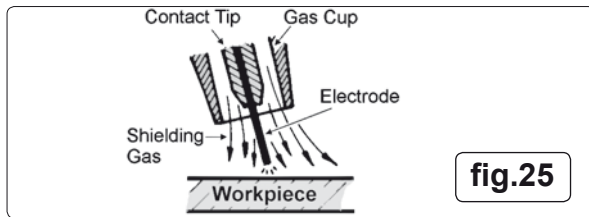

fig.25
- 8.1 **MIG/MAG welding.** (See fig.25 ). A spool of welding wire is placed on the spool holder and automatically fed through an insulated liner in the torch to its tip. The torch consist of a switch, liner, gas hose, and control cable. The switch activates the wire feed roller and the gas flow. Releasing the switch stops wire feed and gas flow. The weld current is transferred to the electrode (the wire) from the contact tip at the torch end.
Wire speed must be adjusted according to power output. The higher the current the faster the wire speed. A gas cup fits over the contact tip to direct gas flow towards the weld ensuring the arc welding process is shielded from oxidising air contamination (fig.25). The shielding gas also assists heating of the weld. The torch is connected to the positive side of a DC rectifier, and negative clamp is attached to the workpiece.